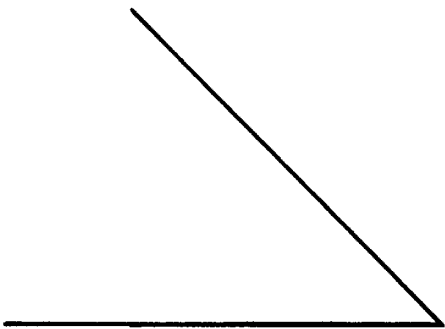

Fig.2
22. Using a compass, bisect the angle shown in Fig.2 to form a 22.5° angle.